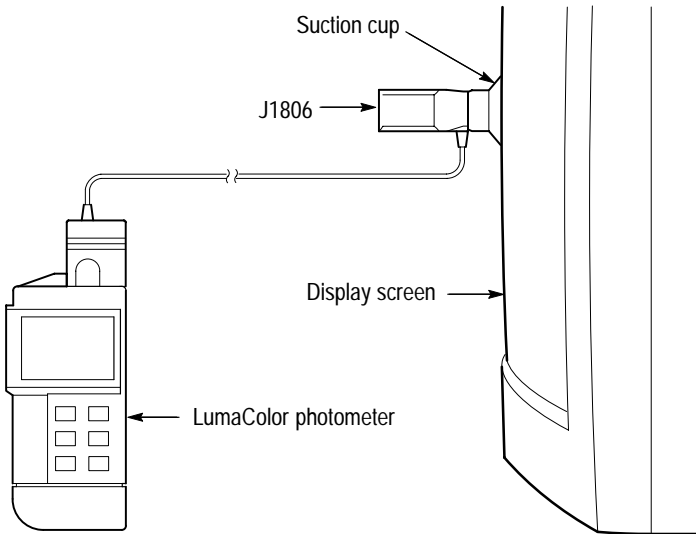

Figure 1–11: J1806 setup for CRT display color balance
4. Attach the suction cup to the J1806 and position the J1806 on the monitor in the center of the pattern. Refer to Figure 1–11.